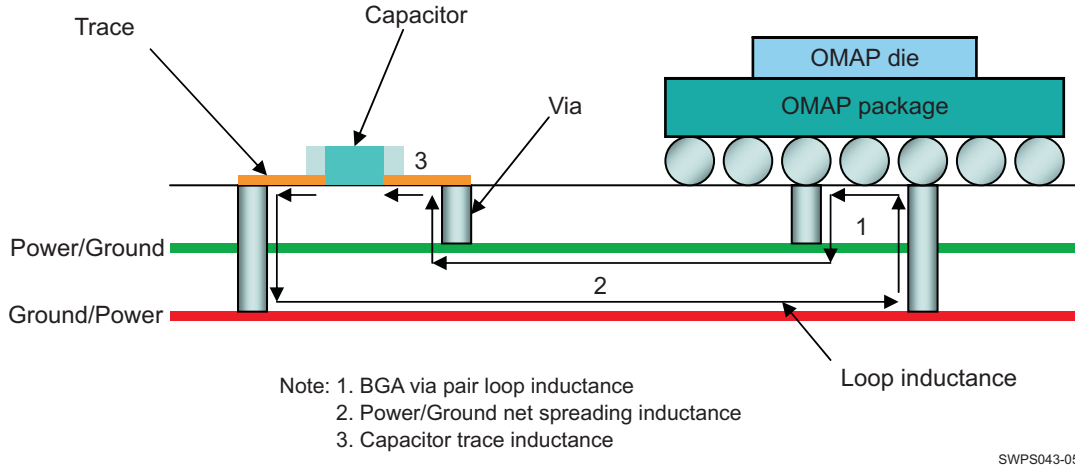

Figure 7-2. Minimize Loop Inductance With Proper Layer Assignment
- Keep the power and ground plane pair as close as possible to the top and bottom surfaces (see Figure 7-2). This will help to minimize the decoupling capacitors mounting, the via, and the power and ground plane pair spreading loop inductance.
The placement of power and ground planes in the PCB stackup (determined by layer assignment) has a significant impact on the parasitic inductances of the power current path as shown in Figure 7-2. For this reason, it is recommended to consider layer order in the early stages of the PCB PDN design cycle, putting high priority supplies in the top half of the stackup and low-priority supplies in the bottom half of the stackup as shown in the examples below (vias have parasitic inductances which impact the bottom layers more, so it is advised to put the sensitive and high priority power supplies on the top layers).
Whenever possible, please mount the capacitor with the geometry that will minimize the mounting inductance and resistance. This was shown earlier in Figure 7-2. The capacitor mounting inductance and resistance here includes the inductance and resistance of the pads, trace, and vias.